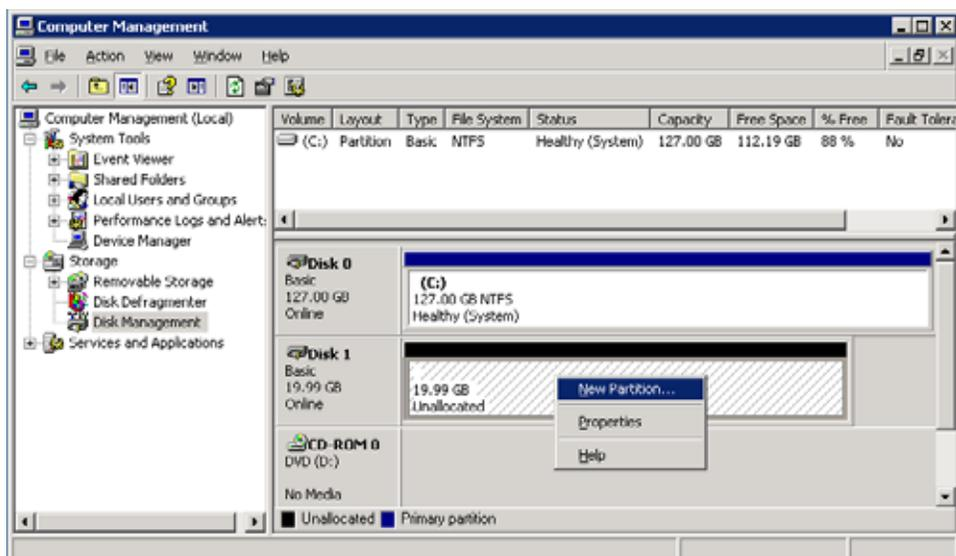

Figure 8 Server Manager — Creating New Partition
- Step 6** On the disk attached to the vHBA, create a new volume by right-clicking the unallocated disk space and selecting “New Partition” as shown in Figure 8.